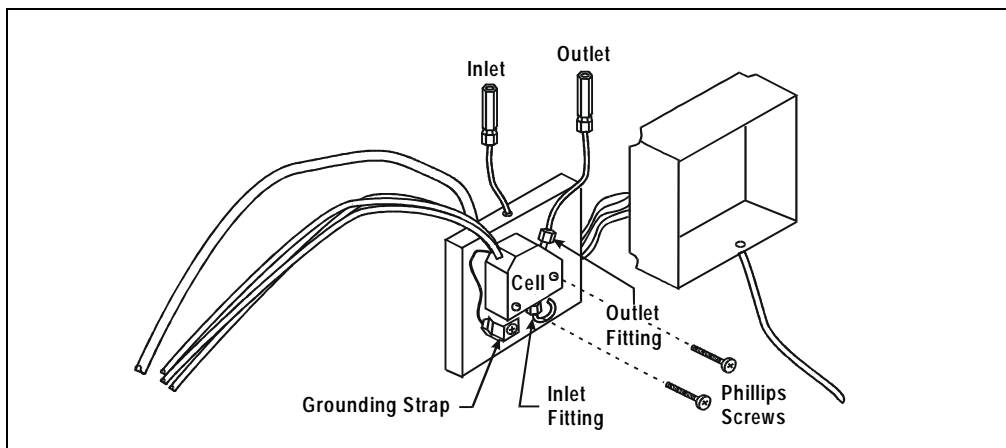

Figure 4-2. DS3 Interior Components
7. Remove the four Phillips screws securing the top of the box to its bottom plate. Carefully separate the two parts, exposing the cell (see Figure 4-2). Lay the top aside, being careful not to pull or stress the group of wires that connect the two parts.